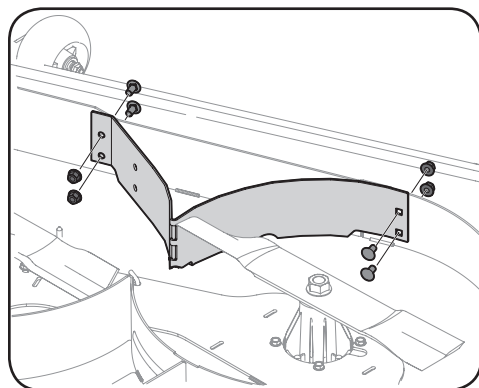

Figure 1-5
1. Install the center baffle using four $\frac{3}{4}$ " carriage bolts (and four flange nuts) to secure it. See Figure 1-5.